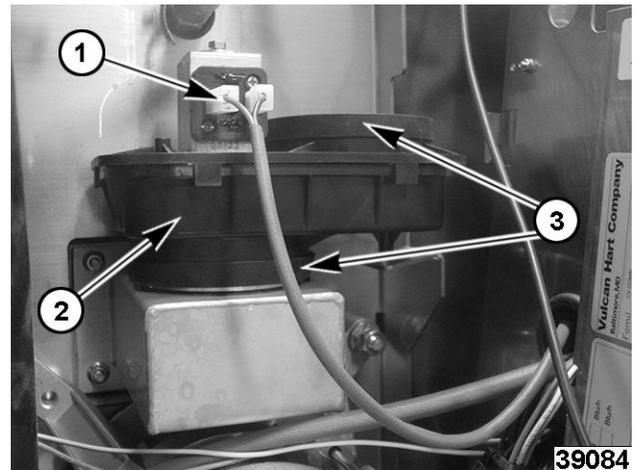

Fig. 62
2. Note and disconnect wires (1, Fig. 62).
3. Lift off motor (2, Fig. 62).
When installing a new vent motor, replace both seals (3, Fig. 62).